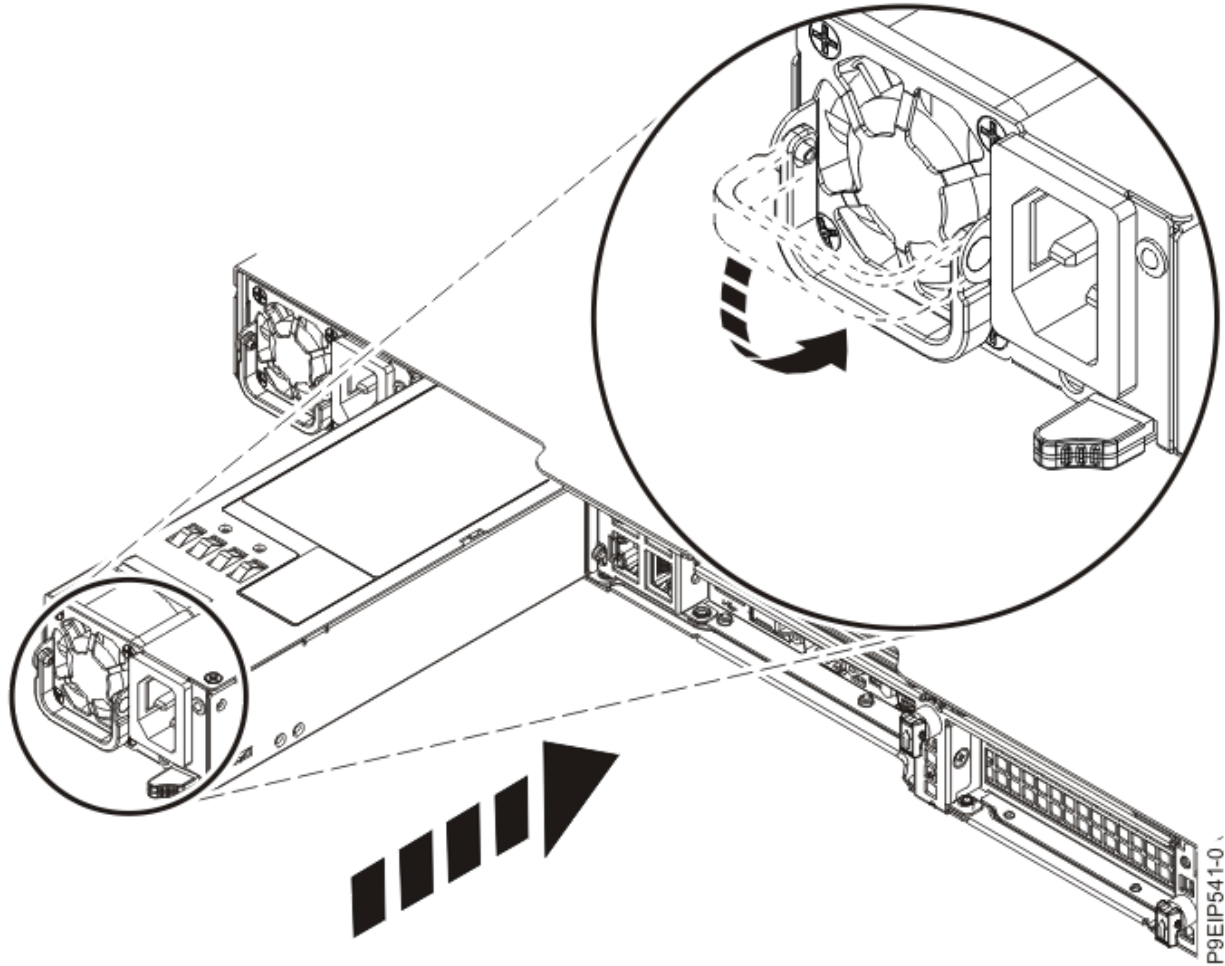

Figure 34. Replacing a power supply in the system
- Align the power supply with the bay as shown in Figure 34 on page 39. The fan is on the left; the plug is on the right. Slide the power supply into the system until the latch locks in place.